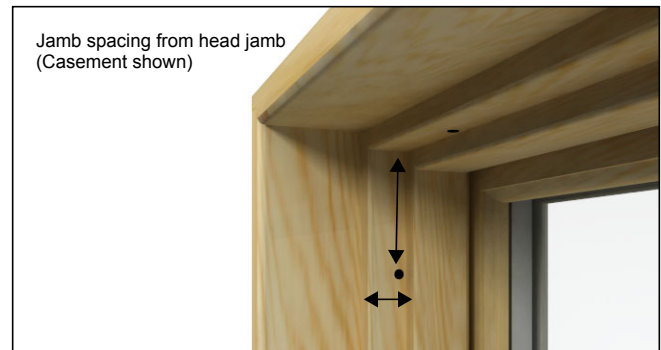
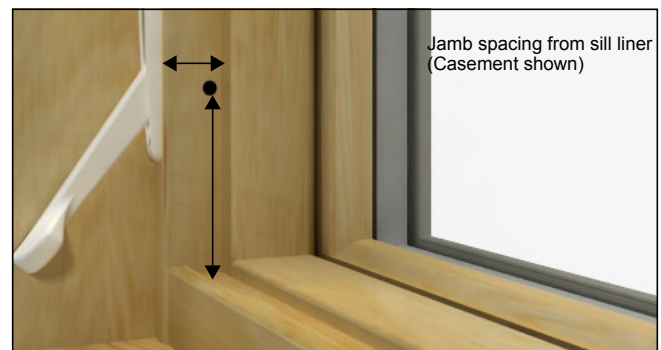
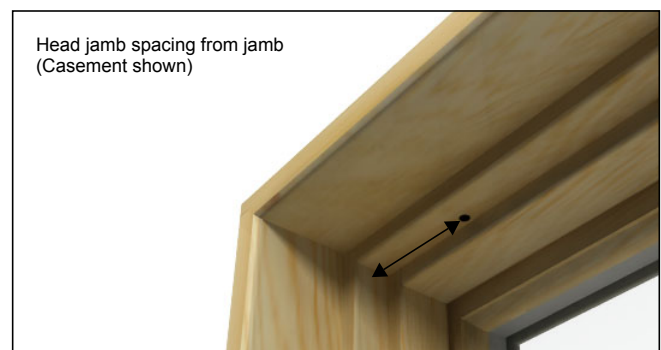

Figure 1
Figure 2
Figure 3
1. Mark hole location on wood jamb/head jamb stops using spacing chart (see chart). From the interior edge of jamb/head jamb stop measure 1/2" (13) and mark intersection point of previous dimension. Carefully drill hole at intersection, mark through jamb/header stop *only* using 3/8" (10) drill bit. Center 3/16" (5) drill bit in 3/8" (10) hole and carefully drill through jamb frame. See figure 1, figure 2, and figure 3.